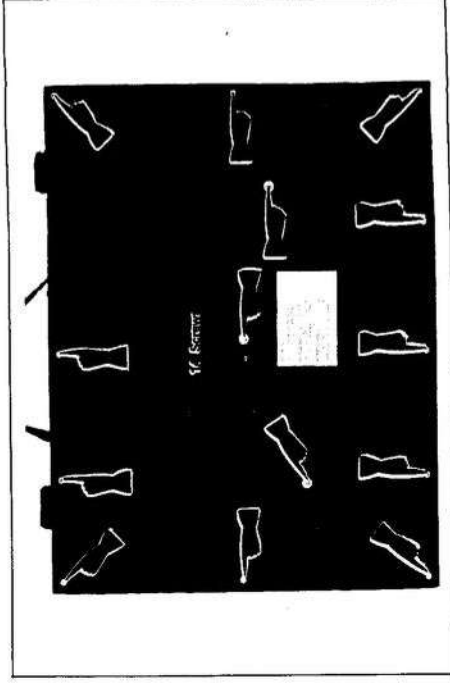

Figure 3-1
- 1. Remove fourteen (14) screws retaining the bottom cover. (Refer to Figure 3-1)